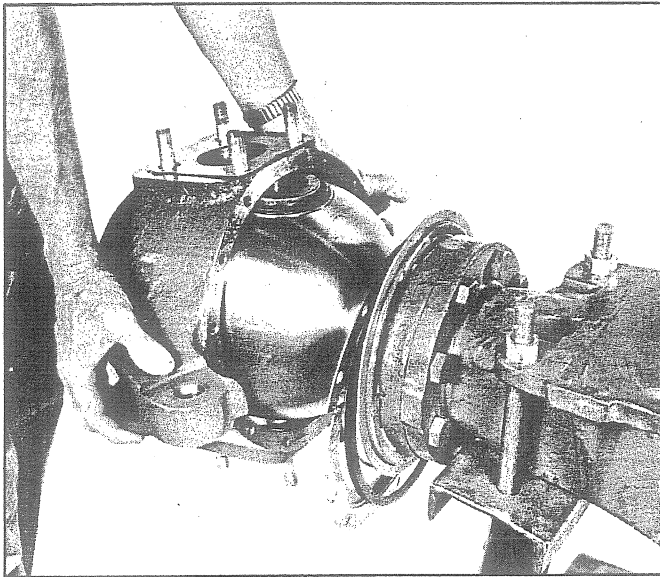

Fig. 24 - Installing Spindle Support
17. With upper trunnion bearing in place, slide spindle support over axle shaft and outer end housing, as shown in Fig. 24.